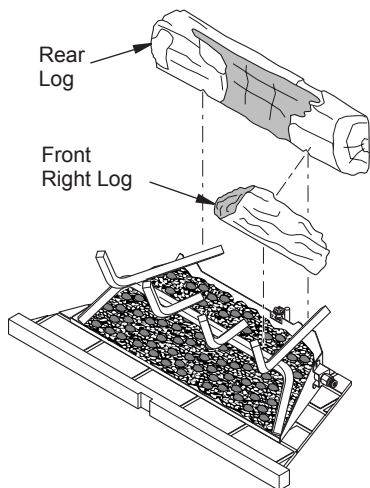

Figure 27 - Installing Logs 1 and 2
1. Place rear log onto grate making sure notches rest over grate (see Figure 27).
2. Place front right log onto front right side of grate with back of log fitting into notch on right front of rear log (see Figure 27).